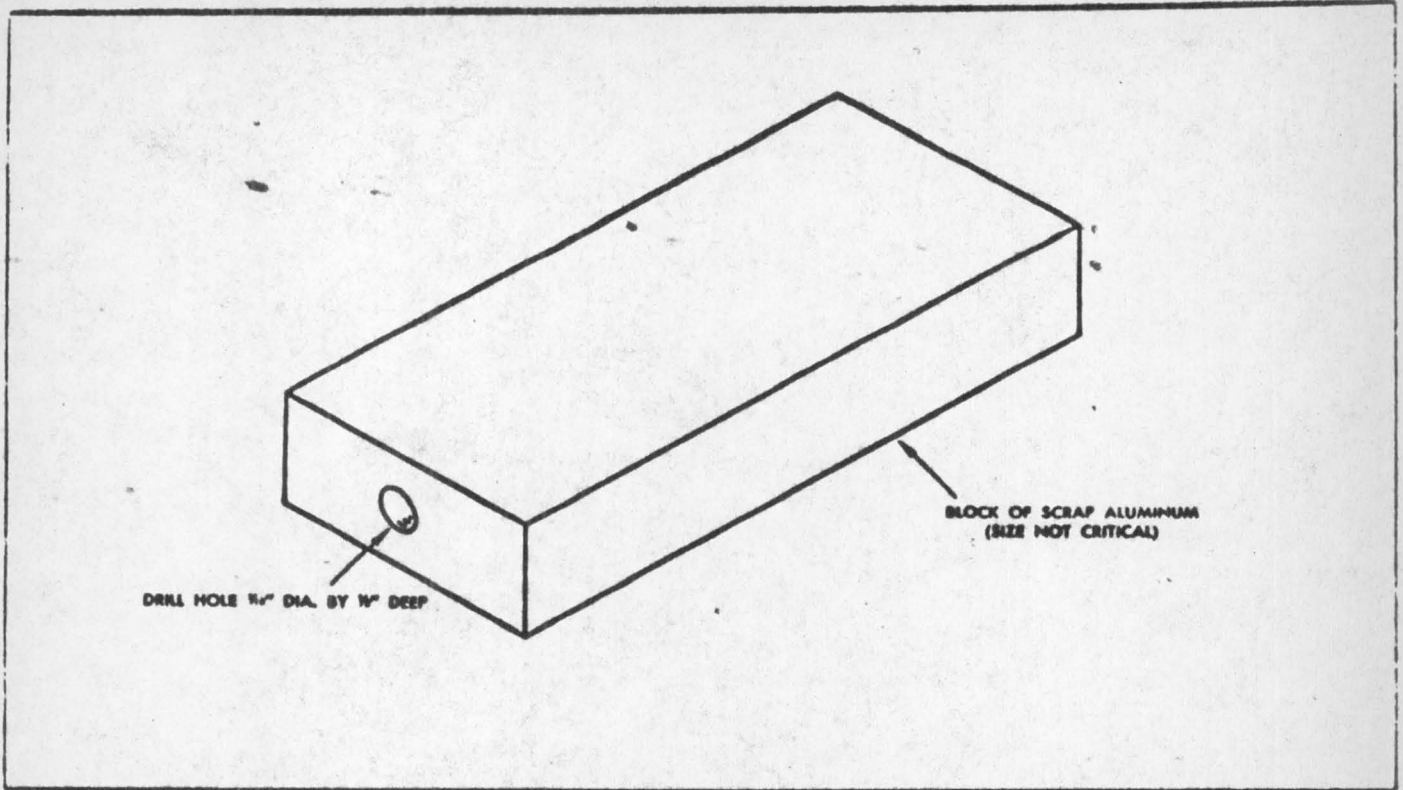

Figure 3.3 Heating Probe
3.8 Chopper Offset - The chopper offset potentiometer, R57, does not require adjustment unless transistor Q7 is changed. The potentiometer is located on board #2 above the hold adjust potentiometer, and is accessible after the cover is removed. To make this adjustment a heating probe is required, fabricate as shown in Figure 3.3.